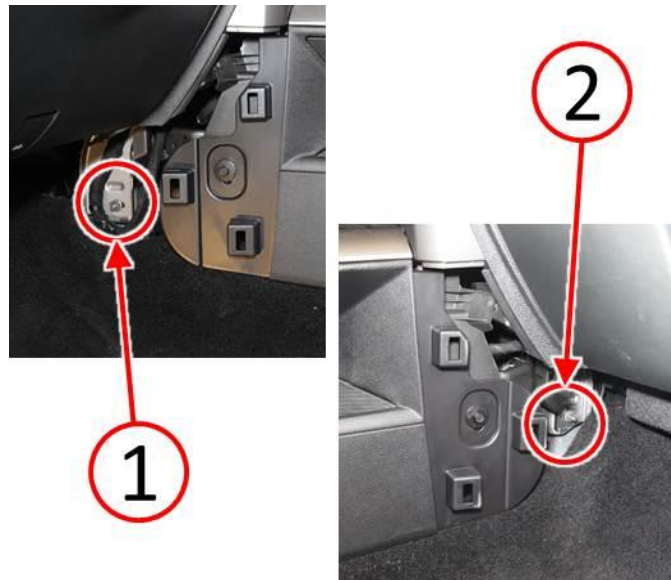

Fig. 2 Lower Center Instrument Panel Fasteners
2. Tighten both the left side (1) and right side (2) lower instrument panel bracket fasteners to 12 N·m (9 Ft Lbs) (Fig. 2).